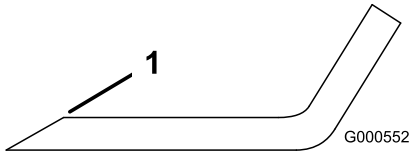
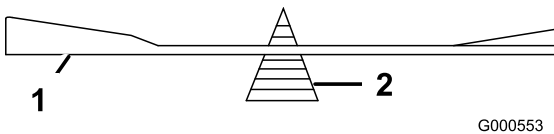

Figure 50
Figure 51
- Use a file to sharpen the cutting edge at both ends of the blade (Figure 50). Maintain the original angle. The blade retains its balance if the same amount of material is removed from both cutting edges.
- Check the balance of the blade by putting it on a blade balancer (Figure 51). If the blade stays in a horizontal position, the blade is balanced and can be used. If the blade is not balanced, file some metal off the end of the sail area only (Figure 50). Repeat this procedure until the blade is balanced.